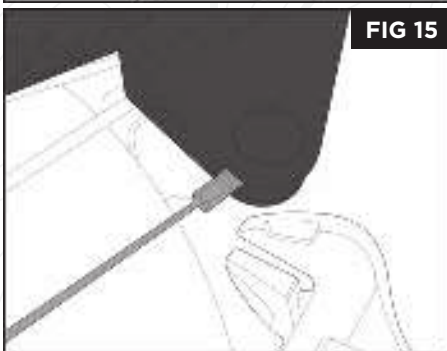

FIG 15
- Always check rudder hardware and cables are tightened before going out on the water. Rudder cable tension can be adjusted with the barrel adjusters found at the stern of the watercraft using an adjustable wrench or a 3/16" open end wrench **(fig 15)**.